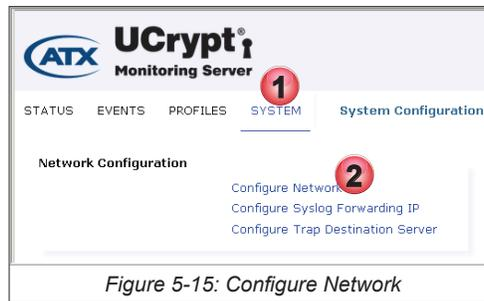

Figure 5-15: Configure Network
1. Click the **System** Tab, Figure 5-15.